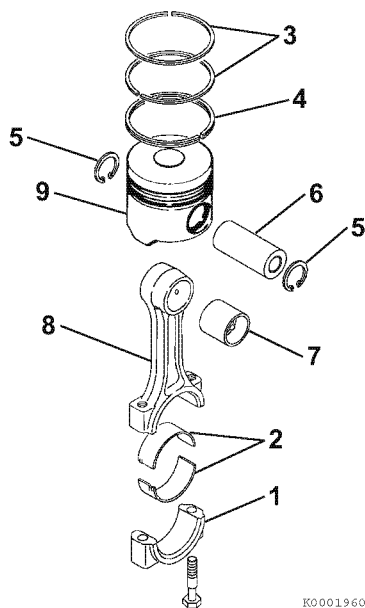

Figure 6-134
4. Lubricate and reinstall the wrist pin (3, **Figure 6-134**) through the piston and connecting rod.
5. Reinstall the second circlip (4, **Figure 6-134**) and ensure it is securely seated in the groove.